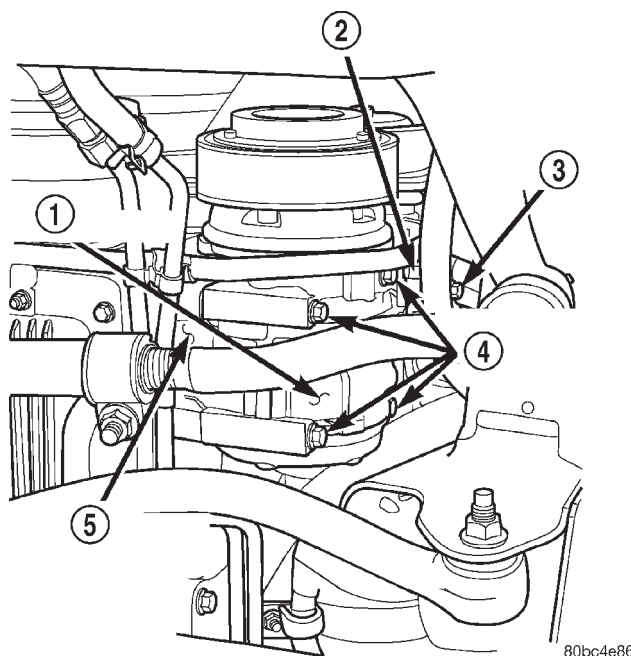

Fig. 3 Compressor Position & Orientation
(1) Disconnect the negative battery cable.
(2) Recover the refrigerant from the refrigerant system. Refer to Refrigerant Recovery in the Service Procedures section of this group.
(3) Remove the accessory drive belt from the compressor clutch. Refer to Accessory Drive Belt in Group 7, Cooling System for the procedure.
(4) Raise the vehicle on the hoist.
(5) Remove the front splash shield.
(6) Remove the (2) refrigerant line retaining bolts from the compressor (Fig. 3). Remove both lines from the compressor and cover all openings.
(7) Disconnect the compressor electrical connector (Fig. 3).
(8) Remove the (4) compressor mounting bolts and remove the compressor from the vehicle.